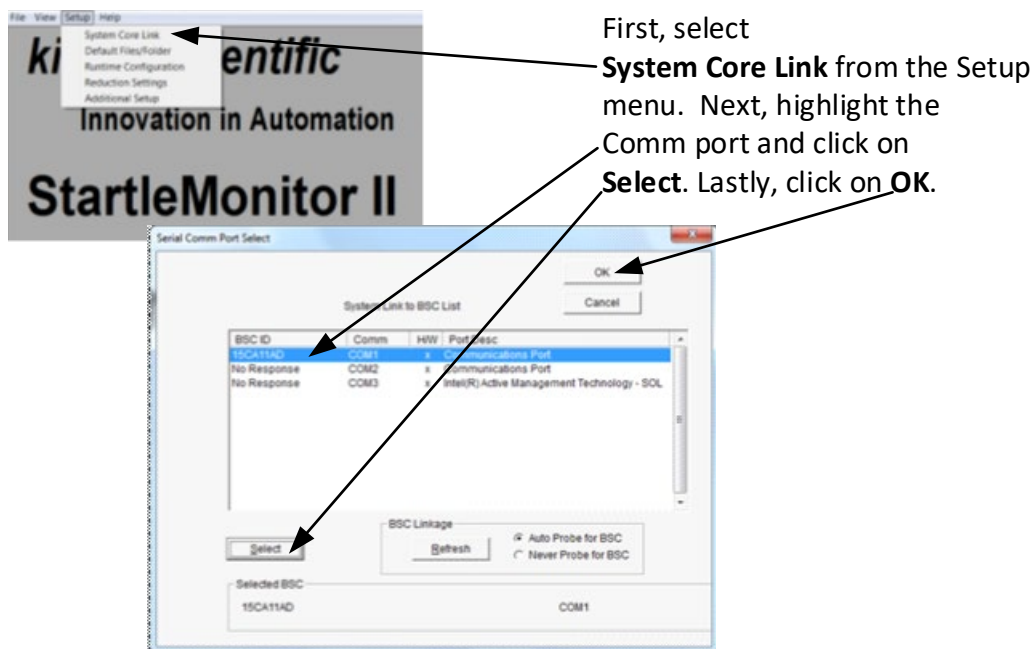

Figure 34 Selecting the BSC and Comm Port (Software Builds 14299008 and later)
2. Select the **Setup** pull-down menu. Click on **System Core Link**. Select a Comm Port and Click **OK**. This is shown in Figure 34.